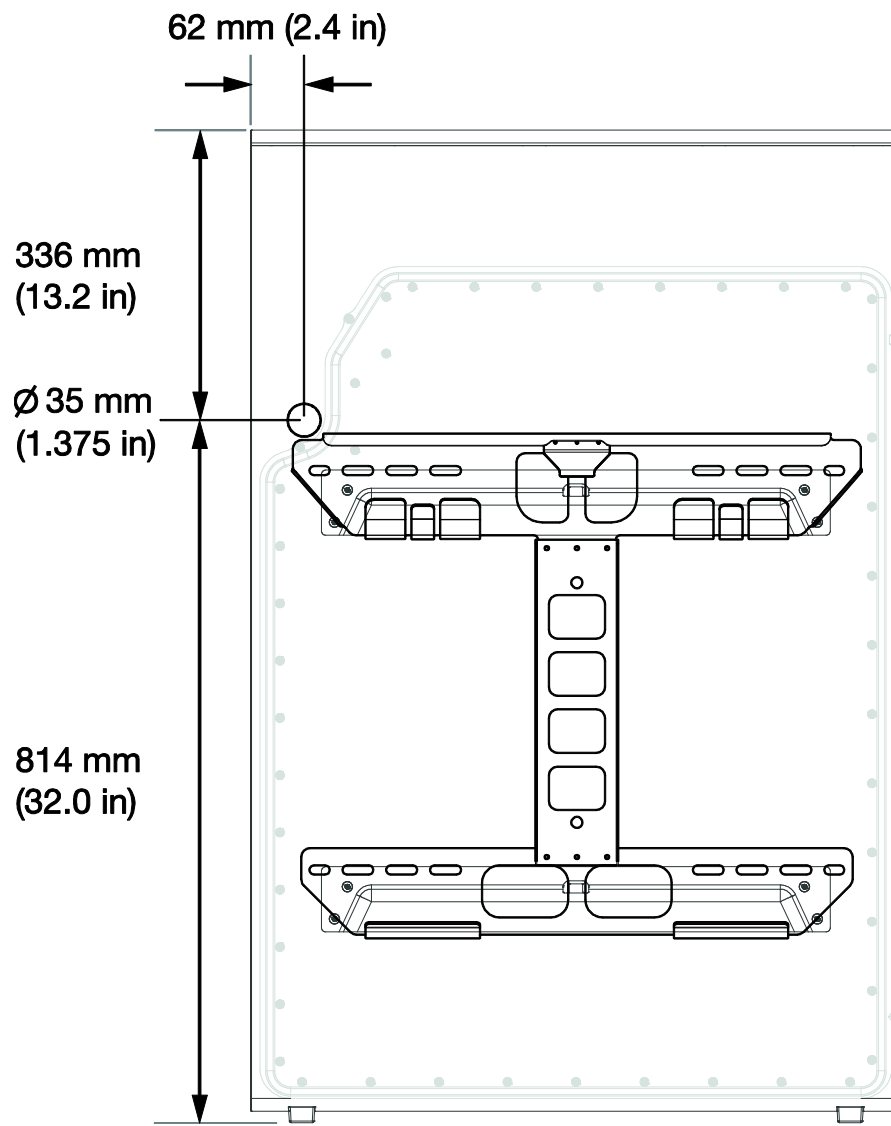
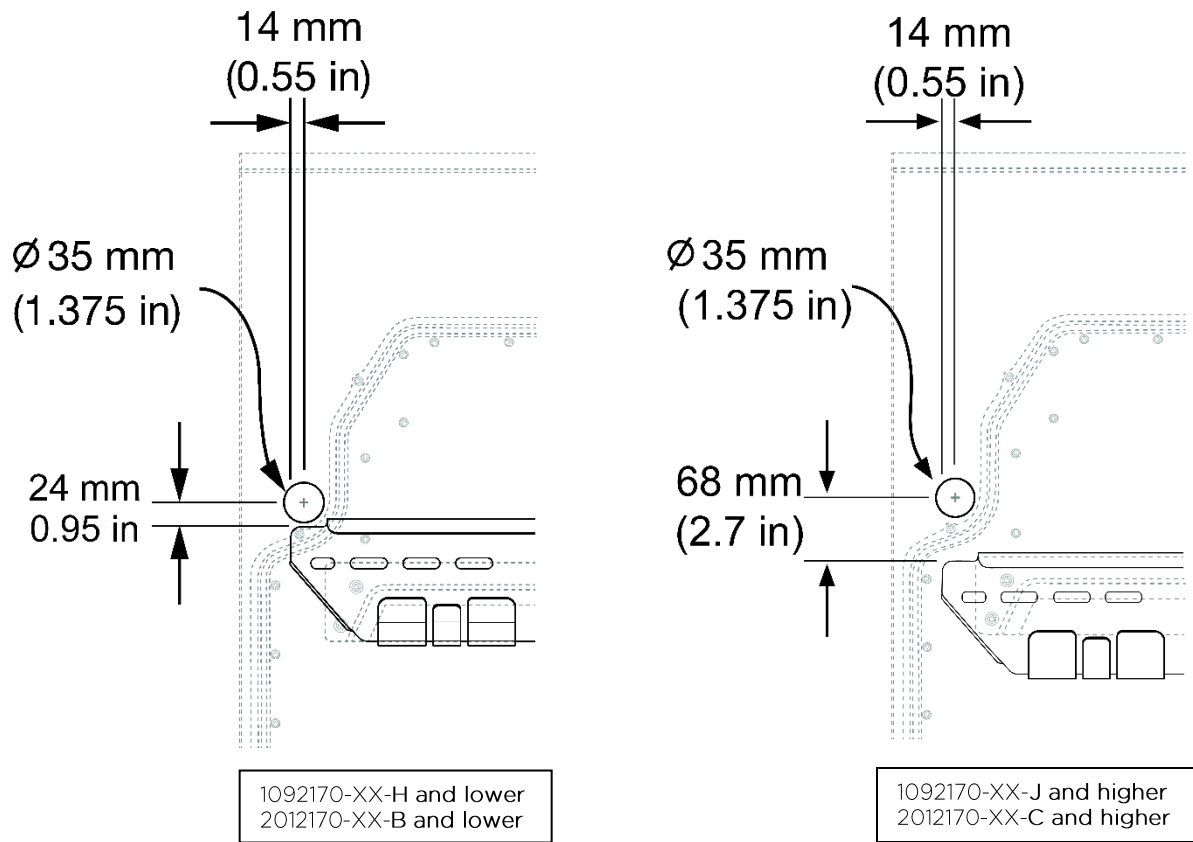

Figure 15: Back Cable Entry Port Location (Viewed from Front of Powerwall)
Figure 16: Back Cable Entry Port Location -DETAIL (Viewed from Front of Powerwall)
7. (Back cable entry installation only) Drill a hole in the wall that corresponds to the location of the back cable entry port on Powerwall. The diameter of the port and location of its center are shown below in relation to the Powerwall chassis (Figure 15) and in relation to the installed mounting bracket (Figure 16).